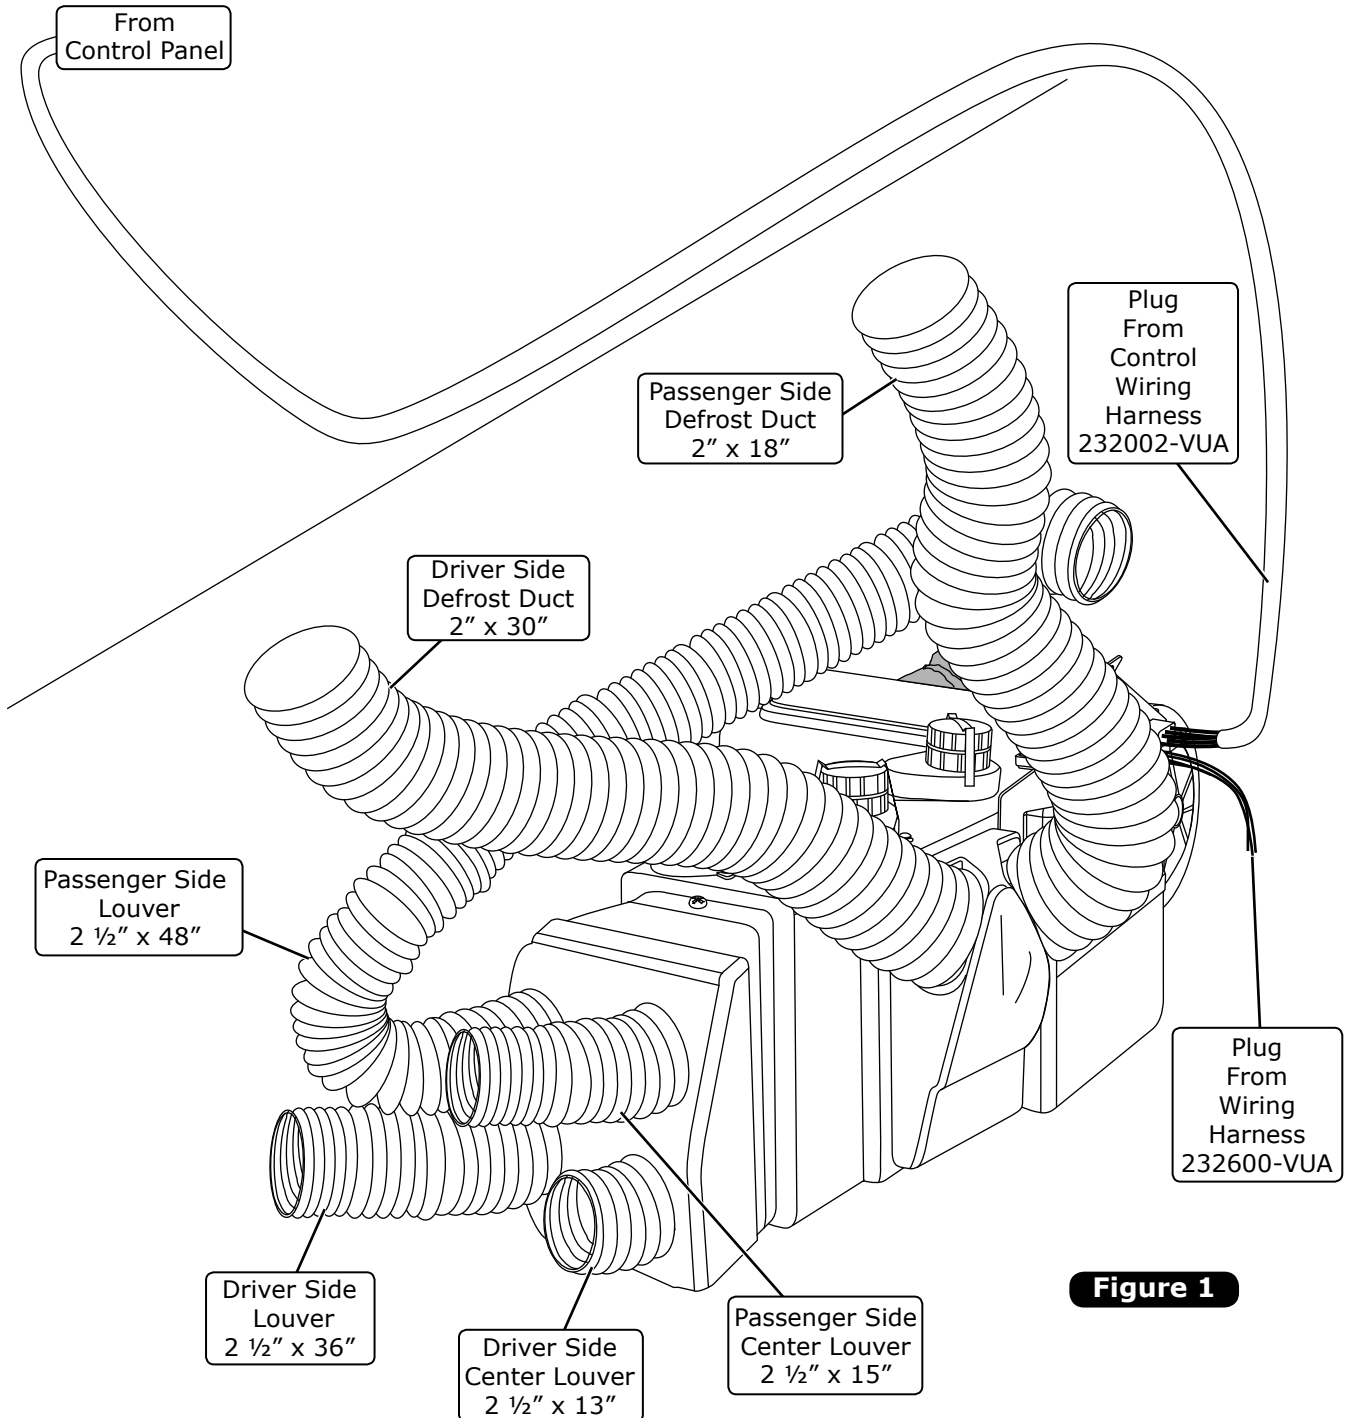

Figure 1
1. Install the duct hoses as shown in Figure 1, below. **NOTE: Do not route duct hoses over the ECU. Duct hoses may sweat and drip onto/into the ECU, causing a malfunction.**